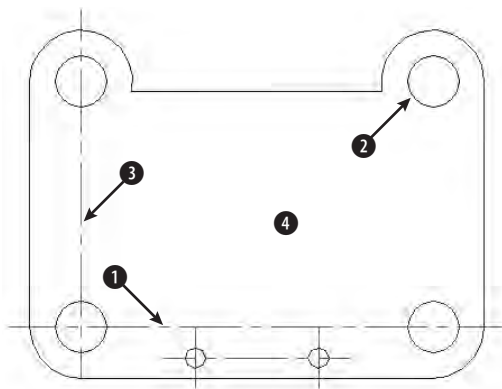

Figure 10-9: A tension arm for a commercial dryer
2. Save the file as `ab10-03.dwg` in your AutoCAD Bible folder. It looks like Figure 10-9. Set a running object snap for center and turn on OSNAP.
Select object to offset or <exit>: Pick ❶ in Figure 10-9.